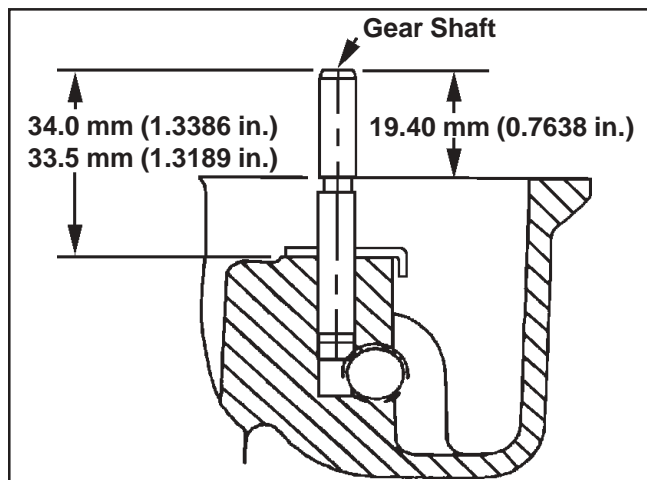

Figure 10-14. Governor Shaft Press Depth.
3. Carefully inspect the governor gear shaft and replace it only if it is damaged. After removing the damaged shaft, press or lightly tap the replacement shaft into the oil pan to the depth shown in Figure 10-14.